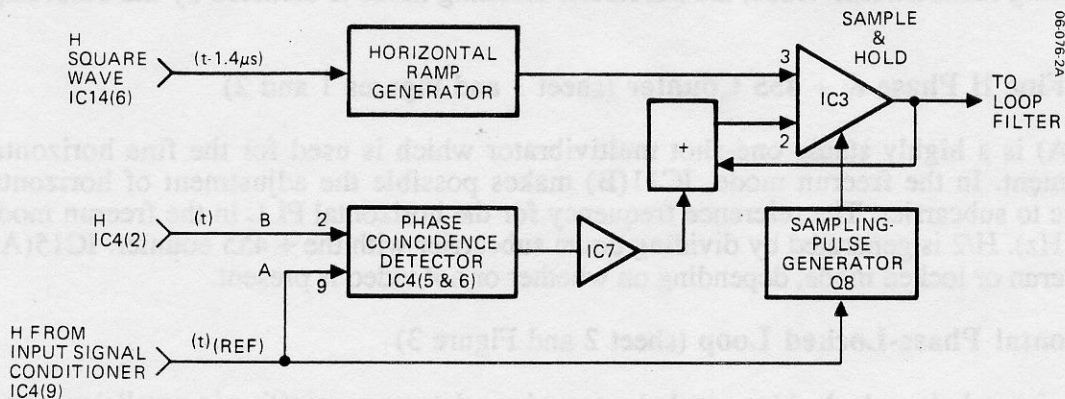
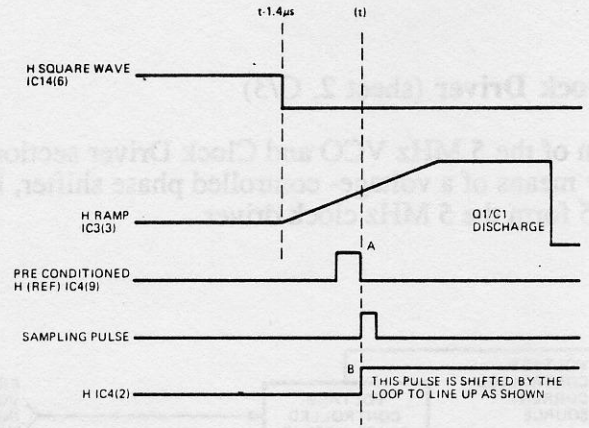

Figure 4. Horizontal Phase Detector, Block Diagram
Figure 5. Horizontal Phase Detector, Timing Diagram
The horizontal phase-locked loop includes two phase detectors operating in parallel to give the best performance of both. One is a sample and hold phase detector IC3, and the other is a phase coincidence detector IC4, IC5, & IC6. Figure 4 shows a block diagram of the horizontal phase detector, and Figure 5 shows the timing relationships for this section.
The ramp for the sample and hold phase detector is generated by the Ramp Generator (sheet 2, G/7), using the horizontal-rate square wave from IC14(A). Q3 is a constant current source which charges C1 at a constant rate. Q5 clamps the ramp at approximately 5 volts. Q6 buffers the output of the Ramp Generator. Q1 discharges C1 at mid-line (Figure 5, H-Ramp) and holds it low for the duration of the line.
The phase coincidence detector causes an offset of the sample in order to compensate for time and temperature variations. It achieves this by requiring that both trigger pulses to IC4 arrive at the same time. When both halves of IC4 are triggered, IC6 (A and B) will reset them. If both are triggered simultaneously, their output pulse widths will be equal and short. If one trigger leads the other, the one which leads will have the longer output pulse width up to the natural time out of the one-shot. This will result in a change of charge on integration capacitor C8. The resulting change in output voltage of IC7 will offset the sample and hold, and cause a coincidence of phase of the two trigger pulses (pulse marked "A" in Figures 4 and 5). IC5 is a memory which registers the occurrence of a trigger even after the one-shot times out. The memory is cleared at mid-line.
The horizontal delay counter (IC13 and surrounding circuitry) performs the following functions: (1) it delays horizontal timing to the phase detectors, which has the effect of causing the output pulses to advance from where they would otherwise be, and (2) by programming the delay, it provides horizontal phase adjustment in increments of 200 ns, and (3) it provides separate reference horizontal pulses to the phase detectors. The pulse to the sample and hold Ramp Generator leads the pulse sent to the phase coincidence detector by approximately 1.4 microseconds in order to start the ramp before the sample pulse. (See the Horizontal Phase Detector Timing Diagram, Figure 5).